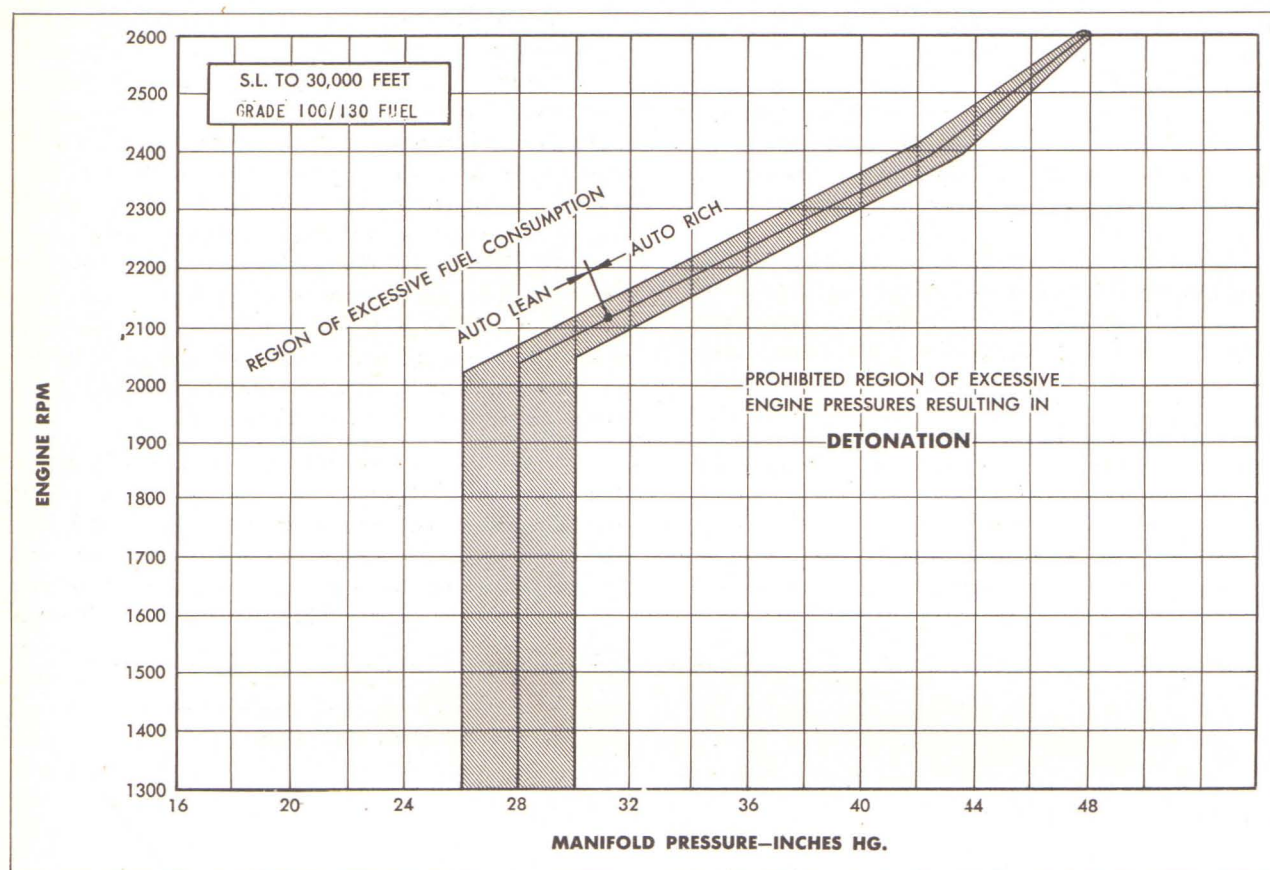

Figure 42 — Engine Operating Limits
(2) Sometimes pilots have had trouble in rough air when they tried to hold the altitude constant when flying near the bottom portion of the curve. The speed changed 20 to 30 MPH, IAS. They were flying first on the "front side" and then on the "back side" of the curve. If they had held the speed constant, instead of the altitude, flying would have been easier and the altitude would not have changed too much.
(3) More power is required to fly when the airplane's weight increases. Adding 100 pounds requires from 2 to 3 more horsepower to fly the B-29 level at a set speed in the medium speed range. One more horsepower per 100 pounds is needed at higher flight speeds.
(4) The effect of altitude on the speed and power combination must also be recognized. If the power is held constant, the level flight speed will drop off at the rate of $1\frac{1}{2}$ MPH, IAS for each 1000 feet increase in altitude but the true airspeed will increase 1%.
c. **ENGINE OPERATING LIMITS.**—In the "Region of Excessive Fuel Consumption" chart, figure 42 (region on left hand side), the manifold pressure is too low for the given RPM. The power plant efficiency decreases in this region as it is operated farther from